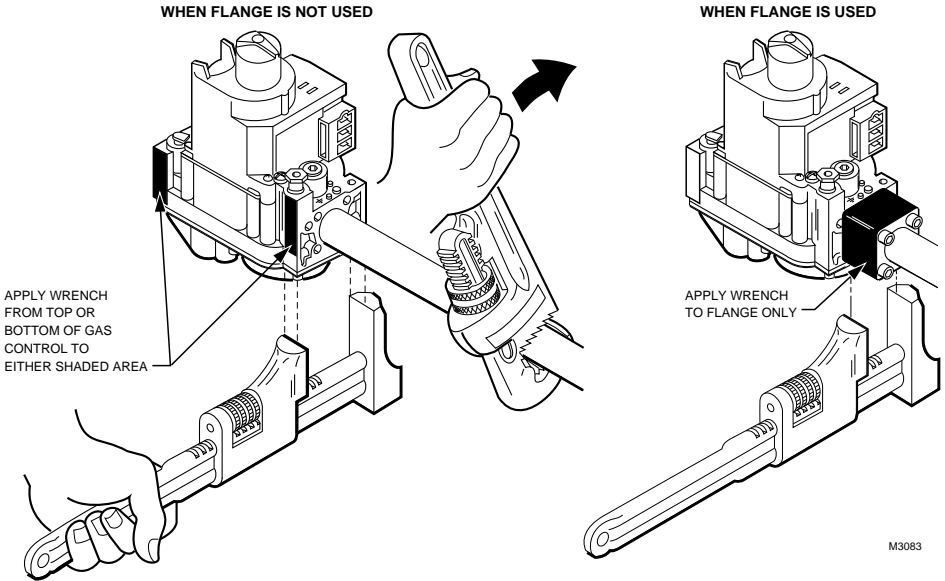

Fig. 5. Proper use of wrench on gas control
1. Remove the pilot adjustment cover screw. Refer to Fig. 5.